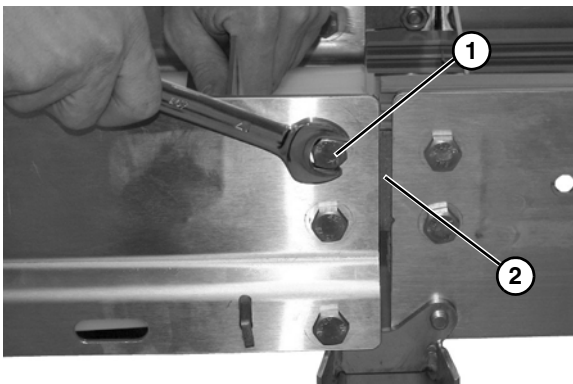

Figure 41
2. Remove two hex head bolts (**Figure 41, item 1**) holding straight section frame to section connecting bracket (**Figure 41, item 2**). Repeat on opposite side.